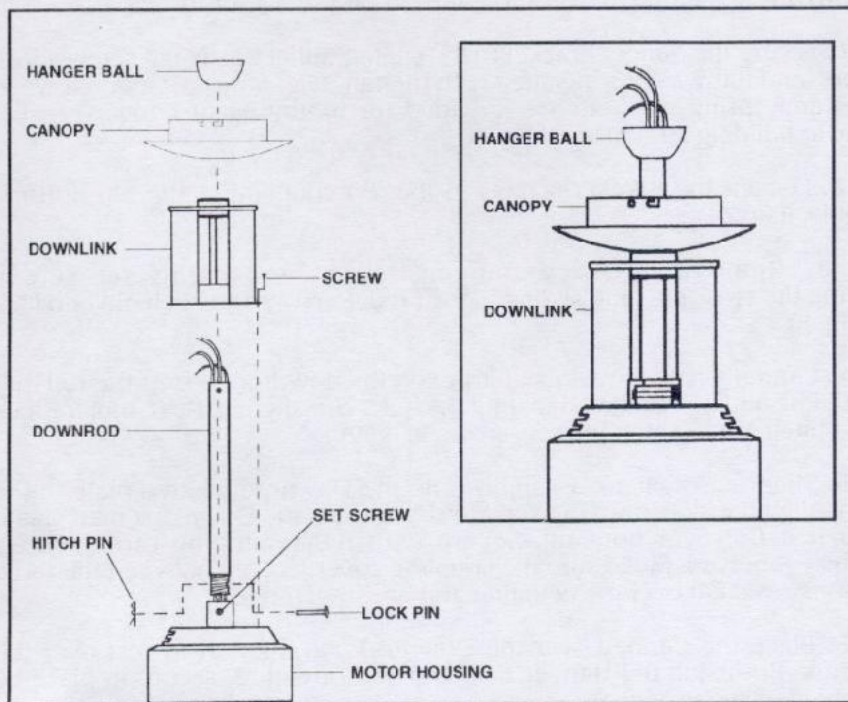

FIG. 9
Step 4. Carefully feed fan wires up through the downrod. Insert the rod into the coupling and tighten onto fan until the holes are aligned. Next, replace lock pin and hitch pin. Tighten the set screws. (Fig. 9)
Step 5. Slip the DownLink assembly onto the Downrod (slotted plate to the bottom) align the slots from the Top Motor Housing and DownLink plate, plate should rest flat over housing. Secure with the remaining three screws previously removed. Make sure the coupling cover located between the three extrusions rests flat over the coupling and housing. (Fig. 9)
Step 6. Place the Canopy over the Downrod and allow it to rest over the DownLink. Re-install the Hanger Ball over the Downrod, secure in place by tightening the screw. (Fig. 9)